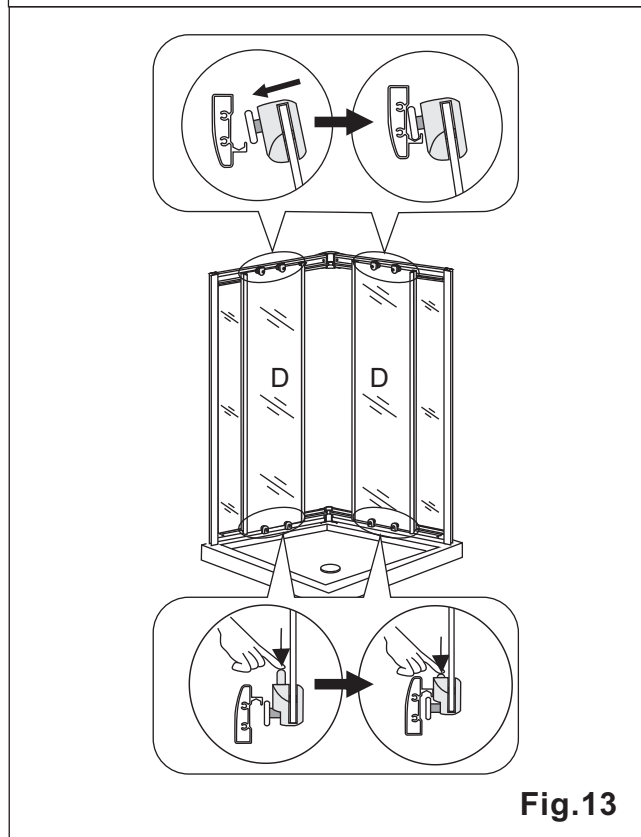

Fig.13
13b. Push down on the bottom rollers and locate them into the channel in the bottom track frame (B). See **Fig 13**.